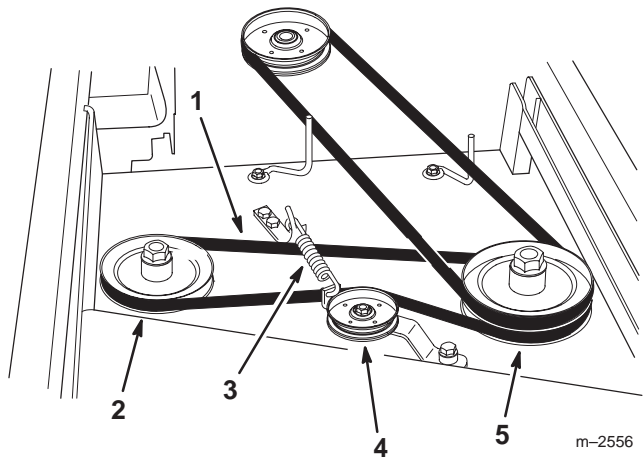

Figure 24
2. Grease the fittings on both spindle bearings (Fig. 24).
4. Disconnect the idler arm spring to relieve tension on the idler arm and idler pulley, then remove the worn deck belt (Fig. 24).
5. Install the new deck belt around the right spindle pulley, idler pulley, and in the lower groove of the left spindle pulley (Fig. 24).
6. Reconnect the idler arm spring (Fig. 24).